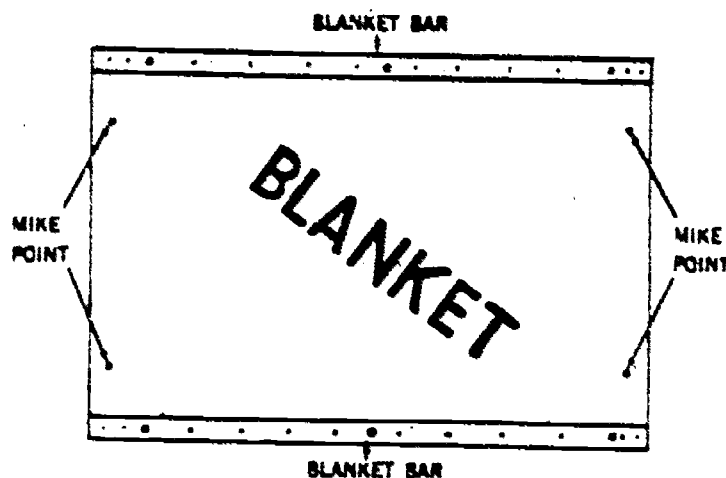

FIGURE 4
(1) Mike and select packing for blanket. The blanket is first "miked". Several points, not near the blanket bars, will be checked and an average taken. (See figure 4.) Sufficient paper packing should be selected to total .073 inch.
(2) Mount blanket bars to blanket cylinder. Now place one blanket bar on the lower surface of the gap in the blanket cylinder. Three 9/16-inch bolts are passed through the holes in the blanket bar into the threaded holes in the cylinder gap, and the blanket bar tightened to the cylinder. Do not force these bolts. If they do not turn freely, it may be because they are binding on rubber. This will necessitate cutting the holes to a larger size. Care must be taken that the bolts are started properly into the threaded holes, or misthreading will result. Turn the cylinder slightly forward by hand, until it is possible to insert the packing sheets behind the blanket. Then turn the cylinder forward to the top of the cylinder gap and attach the free blanket bar to the reel rod with the three remaining 9/16-inch bolts. Take special care to prevent misthreading these bolts. It is best to start the center bolt first.
(3) Tighten blanket on cylinder. Place a one-inch wrench on the square end (operator's side) of the reel rod. A pawl and ratchet at the other end of the reel rod will hold the blanket tight. Hold the pawl into the ratchet and pull the wrench to tighten the blanket around the cylinder. Use only the pressure and leverage of the hands on the wrench when tightening the blanket. Never stand on the wrench, or use a wrench longer than the one furnished with the press. This can cause a serious injury to the operator or damage to the machine for which you will be held directly responsible. The tautness of the blanket can be determined by tapping the surface of the blanket between the reel rod and the tail edge of the blanket with the finger or some object that will not cut or otherwise injure the blanket surface. When removing the blanket, first release the tension from the reel rod. Then remove the three bolts locking the blanket bar to the reel rod and turn the cylinder backwards by hand until the blanket is off the cylinder and remove the three bolts locking the other blanket bar and the blanket from the cylinder. Dispose of the paper packing if it has become wrinkled or sticky.